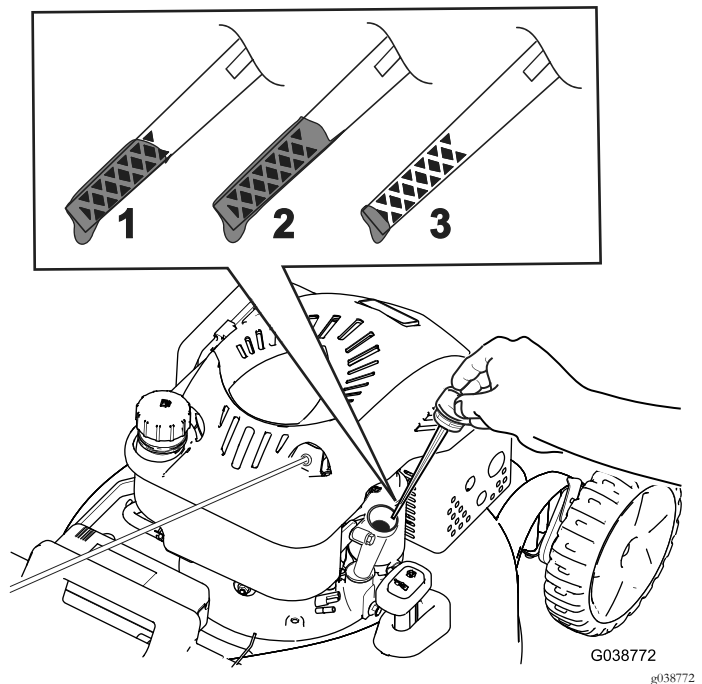

Figure 13
2. Remove the dipstick (Figure 13).
5. Remove the dipstick and read the oil level on the dipstick (Figure 13).